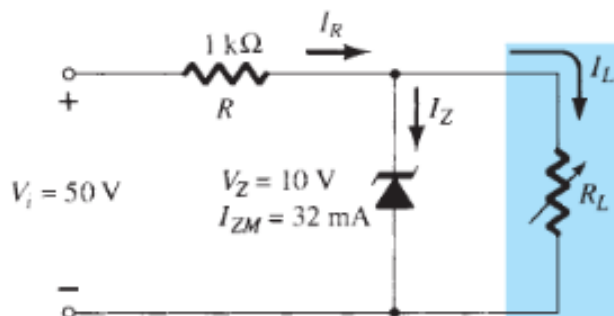

FIG. 2.119
- For the network of Fig. 2.119, determine the range of R_L and I_L that will result in V_{RL} being maintained at 10 V.